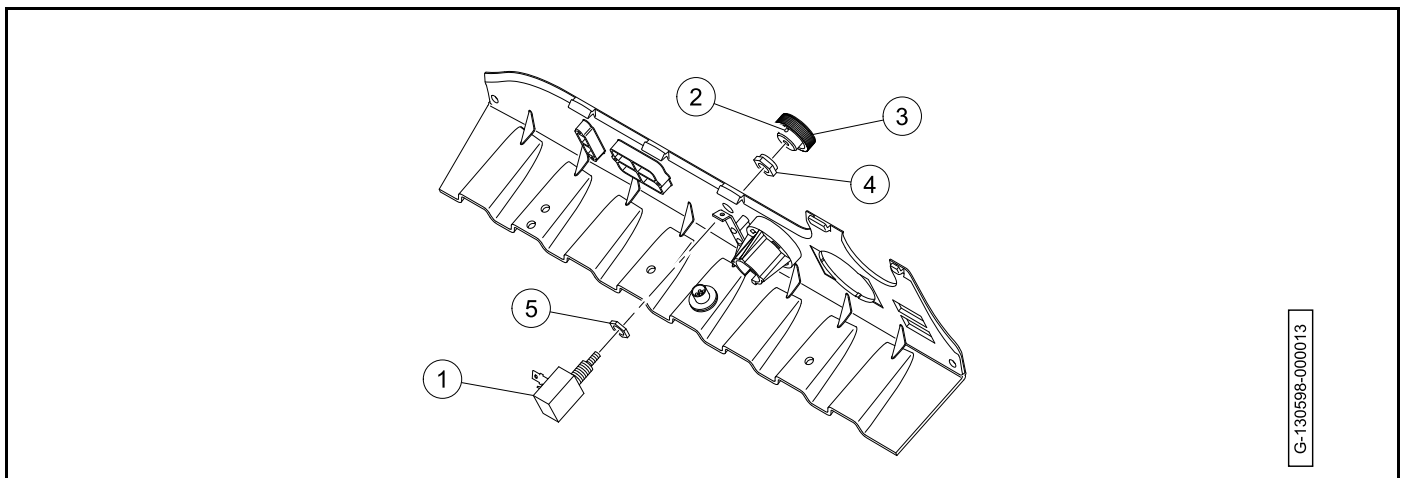

Figure 19-35 Headlight Switch
3. Disconnect the wires from the headlight switch (1) (**Figure 19-35, Page 19-31**).
4. Loosen the set screw (2).
5. Remove the threaded knob (3).
6. Remove the nut (4).
7. Remove the headlight switch and nut (5).
1. Install the nut (5) onto the headlight switch (1) (**Figure 19-35, Page 19-31**).
3. Install the nut (4). Tighten the nut to 2.2 lb·in (0.25 N·m).
4. Tighten the nut (5).
5. Install the threaded knob (3).
6. Tighten the set screw (2).